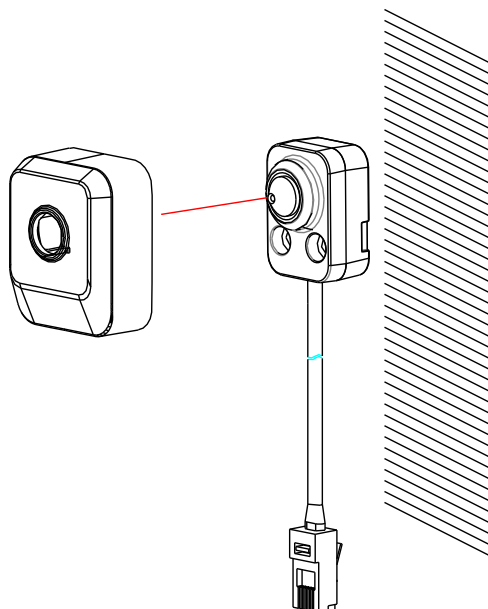

Figure 4-50 Hood the Cover
2. Shield the sensor unit with the decorative cover. As shown in Figure 4-50.